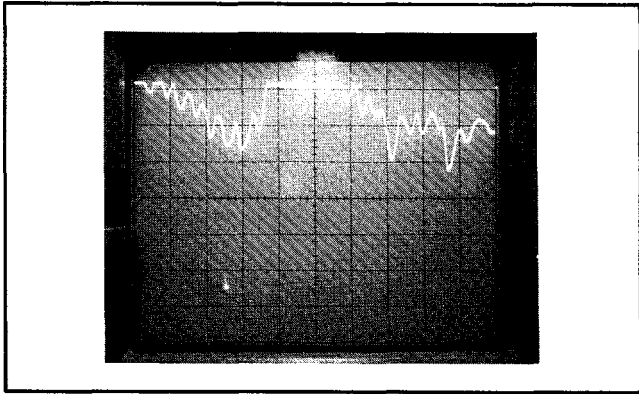

Figure 5-27. F1-F2 Sweep, Unleveled Power
- 3. a trace similar to that shown in Figure 5-27 should be observed.